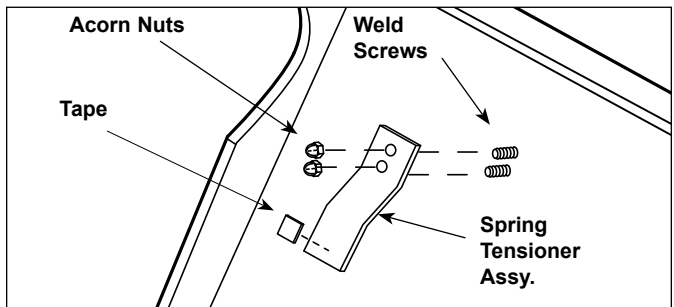

Figure 16. Replacing Spring Tensioner
1. Remove the acorn nuts (Figure 16).
2. Remove the old Spring Tensioner Assembly (Figure 16).